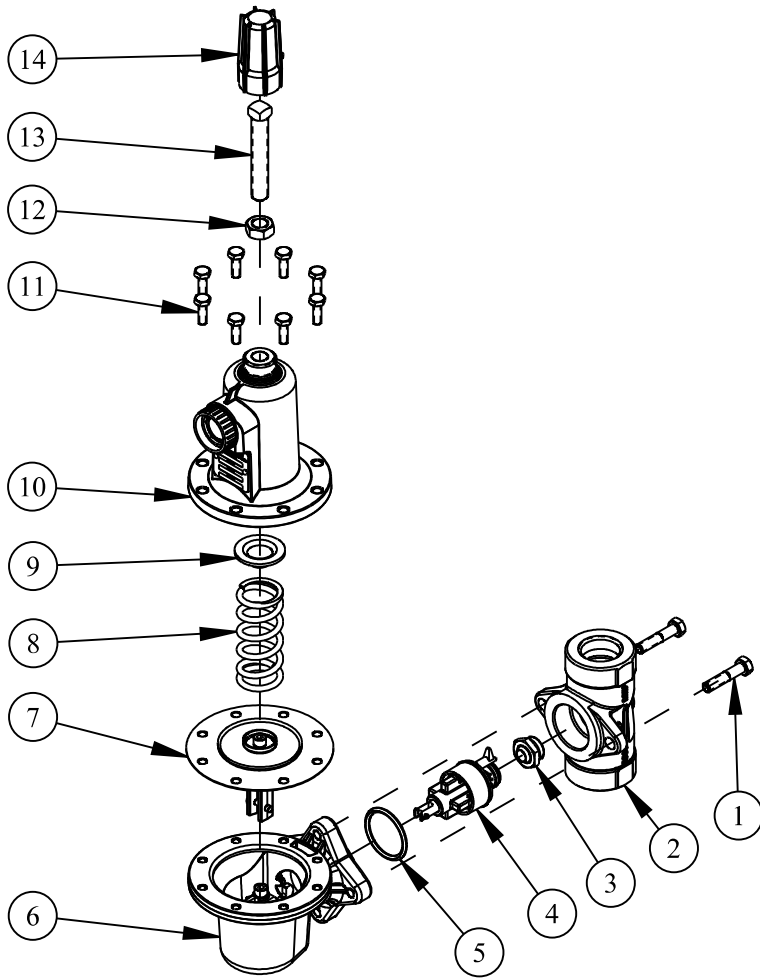
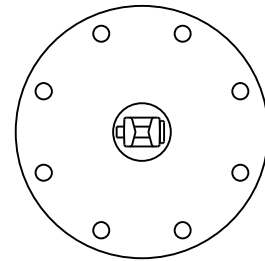
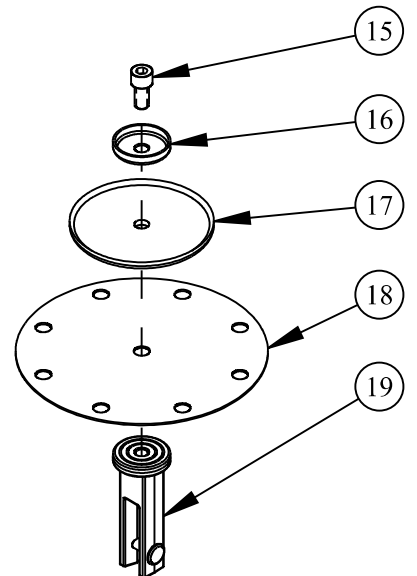

FIGURE 3: KPRL DISASSEMBLED
FIGURE 6: DIAPHRAGM ASSEMBLY
FIGURE 7: DIAPHRAGM ASSEMBLY
1. Remove the body connection screws (1).
2. Remove the orifice (3) from the body (2).
4. Apply anti-seize lubricant to the threads of the body connection screws and reassemble as shown in Figures 3 and 5. Torque the screws to 10 ft.-lbs.
2. Disassemble the regulator as shown in Figure 3.
3. Remove the cap screw (15), spring retainer cup (16), and diaphragm plate (17) from the diaphragm assembly (7).
4. Install the new diaphragm (18) and reassemble the diaphragm assembly as shown in Figure 7. The diaphragm bolt holes must be aligned with the diaphragm rod (19) as shown in Figure 6.
6. Reassemble the regulator as shown in Figures 3 and 5. Torque the spring housing screws (11) to 100 in.-lbs. and apply anti-seize to the body connection screws (1) and torque to 10 ft.-lbs.
7. Reassemble the regulator as shown in Figures 3 and 5 with a new o-ring (5).
8. Upon reassembly, torque the spring housing screws (11) to 100 in.-lbs., apply anti-seize to the body connection screws (1), and torque the body connection screws to 10 ft.-lbs.